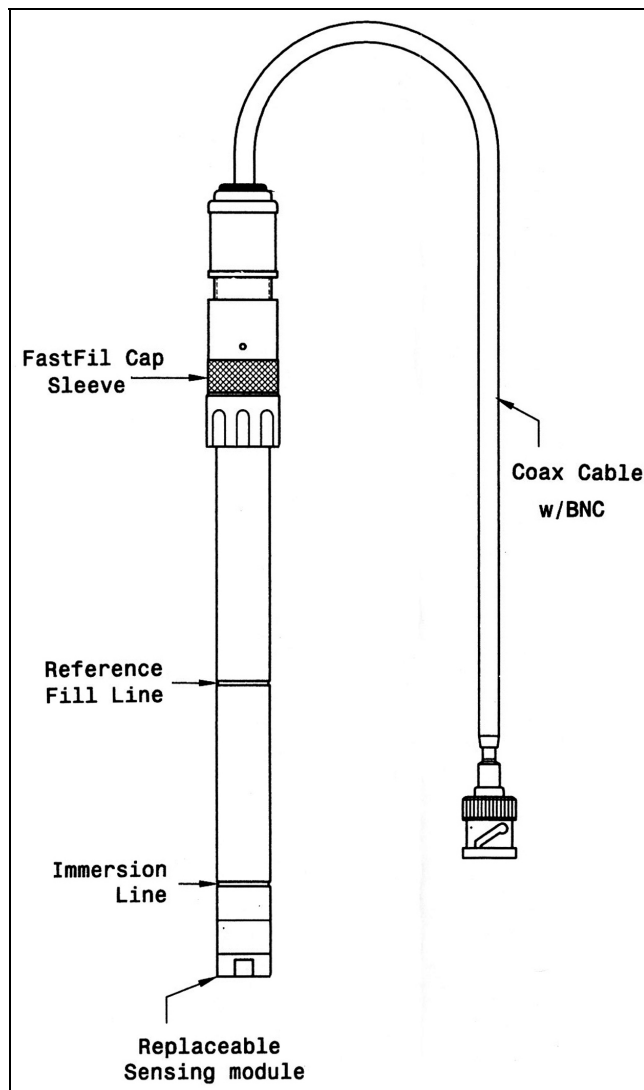

Figure 1: AC017 NO₃⁻ Ion Selective Electrode
- b) Fill the reference chamber with the Reference Fill Solution provided above the reference fill line on the electrode (see Figure 1)
Periodically check the Reference Fill Solution level in the reference chamber. The solution level must be above than the reference fill line (see Figure 1).